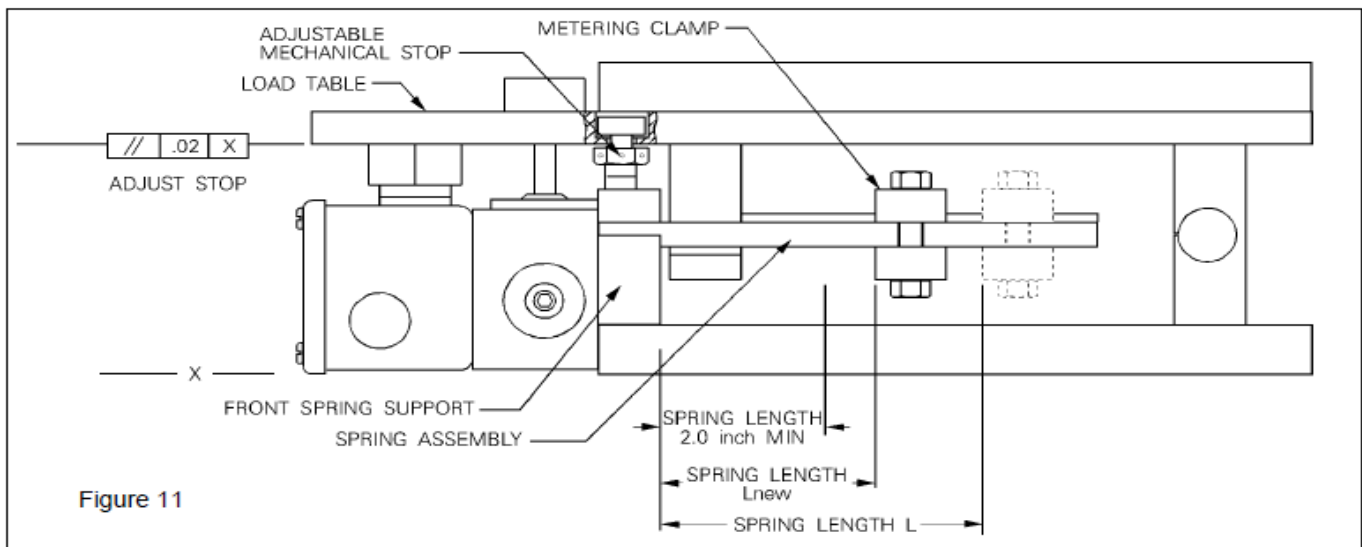

Figure 11
Loadcell recalibration involves changing the spring length which in effect changes the calibrated operating load capacity of the unit. This is accomplished by increasing or decreasing the spacing between the opposing faces of the front spring clamp and the metering blocks. Refer to Figure 11
3. Check that the load plate is parallel to the base plate ($\pm .020"$). This in effect removes the tare weight acting on the load plate. Depending on the load capacity of the units and the applied tare weight, the load table may require the use of a prying or clamping device to force the load table parallel to the base plate, and blocking it to maintain the position. (Refer to Figure 11 before proceeding with Step 3a or 3b)